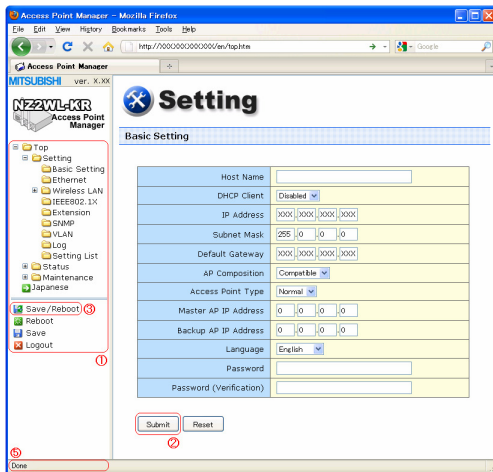

Figure 3.3. Setting by Access Point Manager (KR)
Select “Setting” in the left-hand menu ((1) in Figure 3.3) and further select the desired setting items from the opened menu. Information such as setting items will be displayed in the right-hand frame.
Click “Submit” ((2) in Figure 3.3) after changing settings on each page to temporarily save the settings in this product.
The settings become enabled when the product is restarted after all the setup procedure is completed and the settings are stored. Click “Save/Reboot” ((3) in Figure 3.3) on the left-hand menu.
“Time Out Error” will occur when there is no operation for approximately five minutes. The indicator (a bar drawn with “.”) on the status bar ((5) in Figure 3.3) represents the approximate time for timeout^{*1}. The number of “.” is gradually decreased and all “.” disappear before timeout.